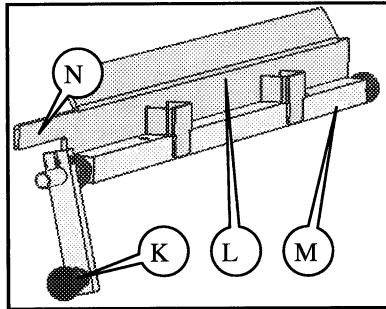
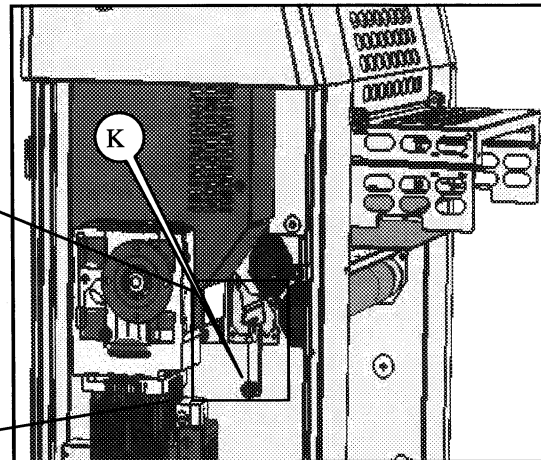

Fig. 4 Belt scraper assembly
Fig. 3
2. Pull knob (K) (fig. 3)
3. Turn knob (K) counter clock-wise (approx. 45°).
4. Lift scraper (L) at point (N) and take it out (Fig. 4).